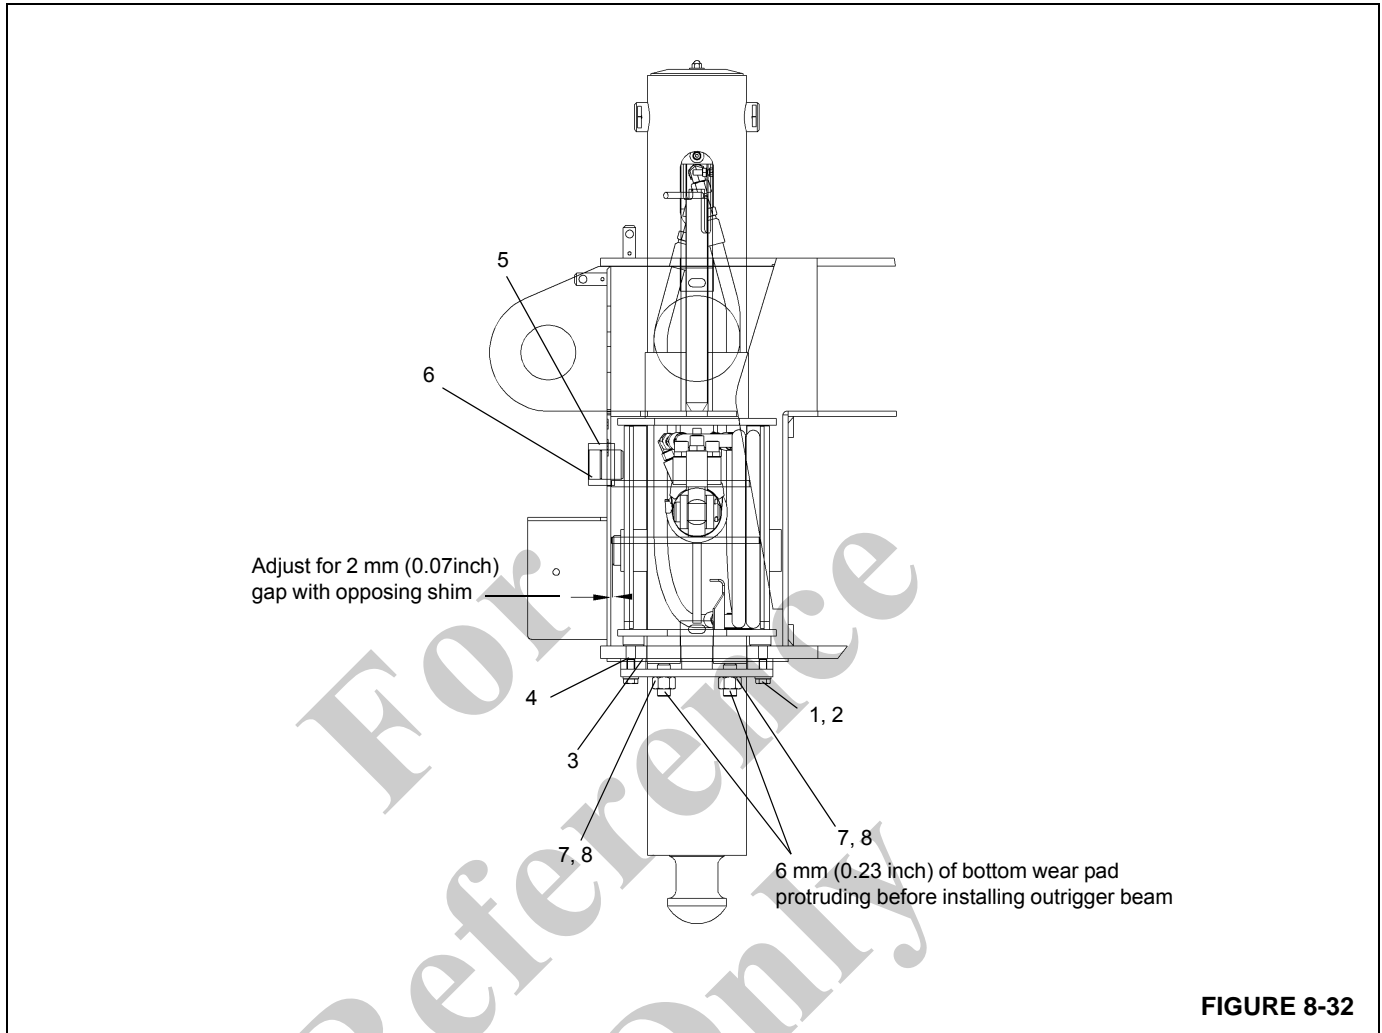

FIGURE 8-32
3. Install the bottom wear pads with approximately 6 mm (0.23 in) protruding. This will prevent the beam side plates from riding on the bottom of the box (Figure 8-32).
NOTE: When adjusting wear pads, refer to Wear Pad Adjustment (Figure 8-32).